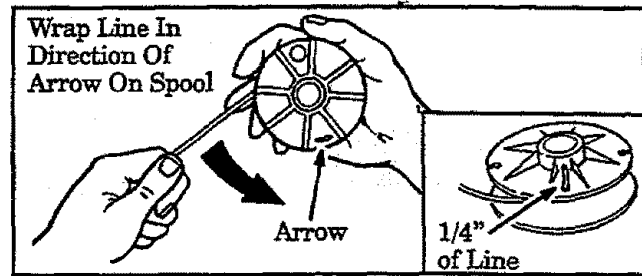

Figure 14
- Hold spool as shown in Figure 14.
- Insert 1/4" to 3/8" of line through the tapered slot in the top of the spool. Figure 14 (inset).